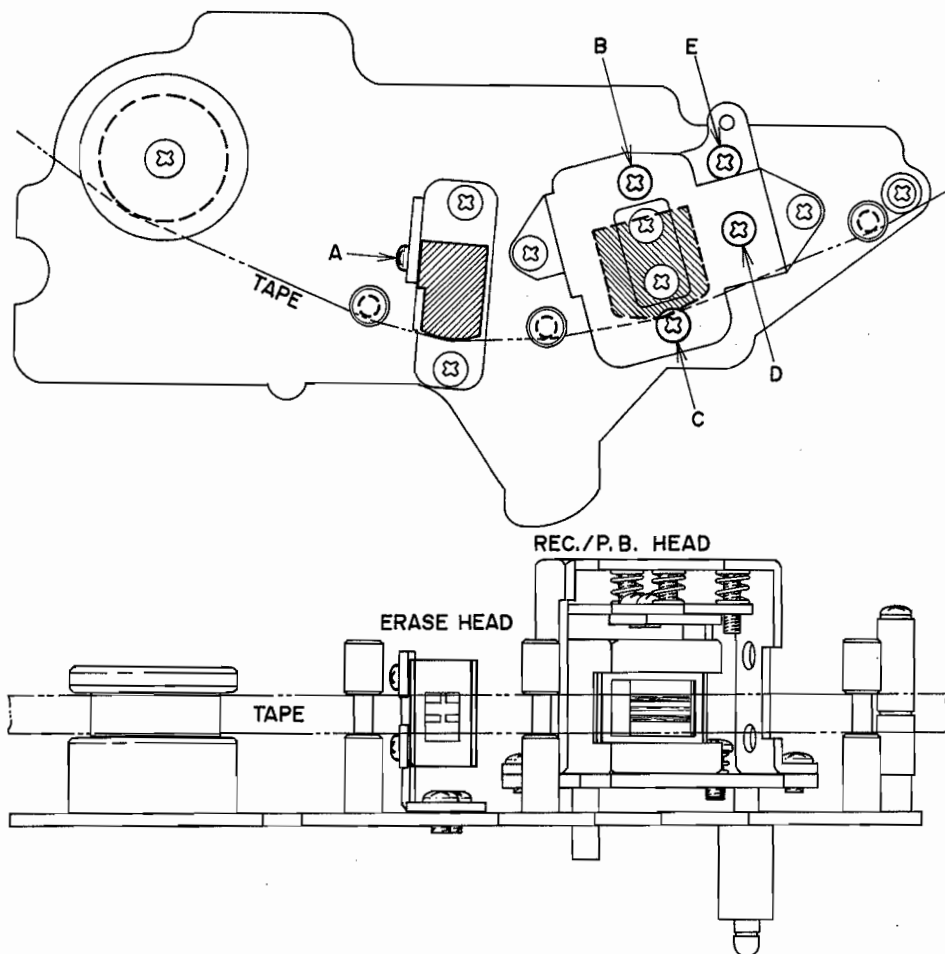

Fig. 18
At playback mode, loosen Screws (A) shown in Fig. 18 and adjust head height so that the upper edge of the tape is about 0.1 mm lower than the upper edge of the left channel erase head core.
a) At Forward Playback mode, adjust REC/P.B. Head height by turning screws (B)(C) and (D) shown in Fig. 18 to left and right until the upper edge of the tape is the same height as the upper edge of the left channel REC/P.B. Head core.
b) At Reverse Playback mode, adjust REC/P.B. Head height by turning Screw (E) shown in Fig. 18 to left and right until the lower edge of the tape is the same height as the lower edge of the right channel REC/P.B. Head core.
5) At Forward Playback mode, turn Azimuth Alignment Screw (D), shown in Fig. 18 to obtain maximum line output level on both channels.
6) After the adjustment in Item 5) above has been completed, loosen Screws (F)(G) shown in Fig. 18 and move the head gap side of the REC/P.B. Head to left and right. When tension is applied to the supply reel side and the line output level of both channels do not fluctuate, (maximum allowable fluctuation within +0.5/-0 dB) fix Screws (F)(G) to maintain this condition.